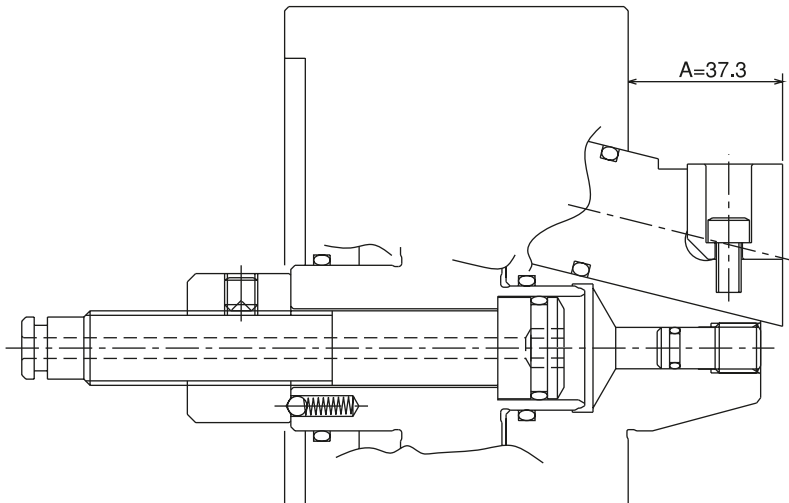

Fig. 13
- The appropriate position of the plunger at the cylinder forward end is the position when the dimension A in Fig.13 becomes 37.3mm.